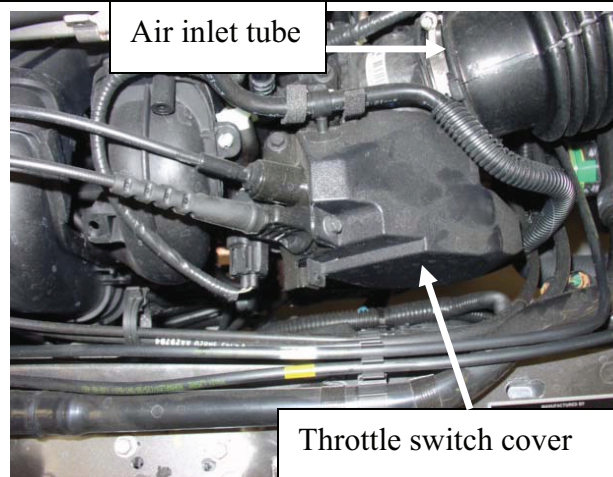

FIGURE 48
76. Remove factory plastic throttle cover and keep the torque-bit screw for installation of the new WOT switch and bracket. **(FIGURE 48)**